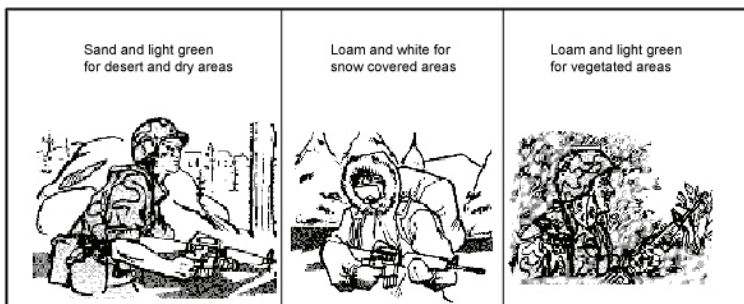

Figure 052-191-1361-1. Colors Used for Camouflage
d. Color. Blend individual camouflage with the surroundings or, at a minimum, ensure that objects do not contrast with the background (figure 052-191-1361-1).